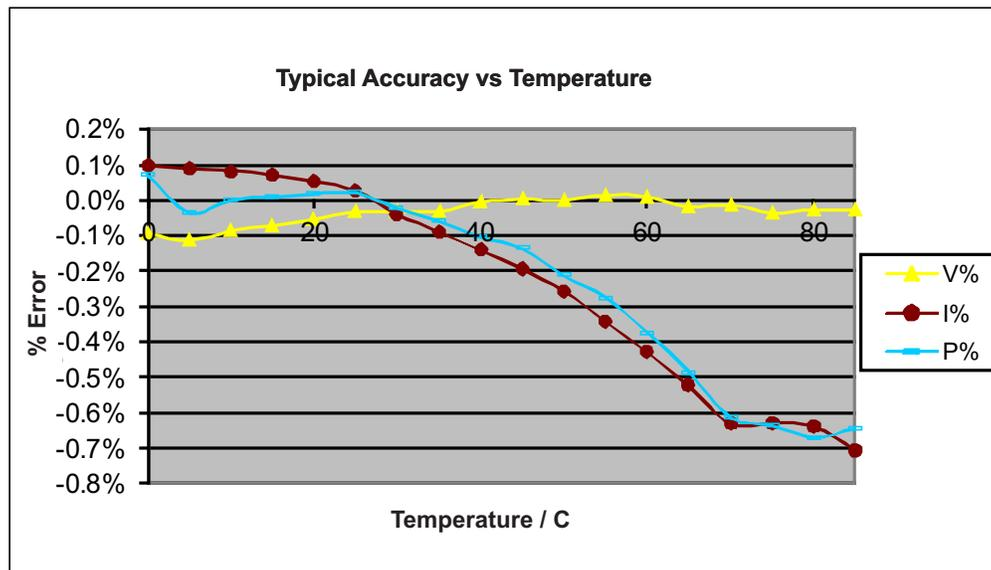

**Figure 37. Power Percentage Error % Load Current (A)**
**NOTE:** In Figure 37, the graph indicates that at a higher current the error begins to go negative. This phenomenon is due to the fact that the shunt is heated up by the current flowing through the traces on the board. At low current, the higher error is mostly caused by noise causing instability of readings.